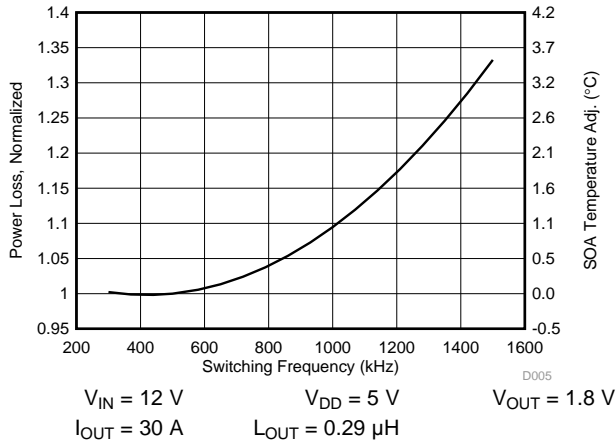

Figure 8. Normalized Power Loss vs Frequency
- Normalized power loss for switching frequency  $\approx$  1.04 (Figure 8)
- SOA adjustment for switching frequency  $\approx$  0.42°C (Figure 8)